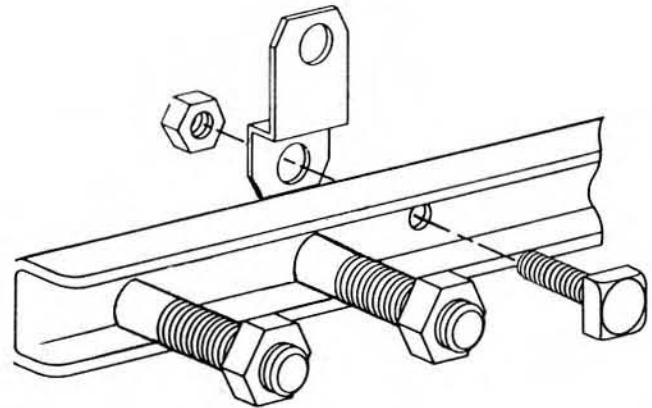
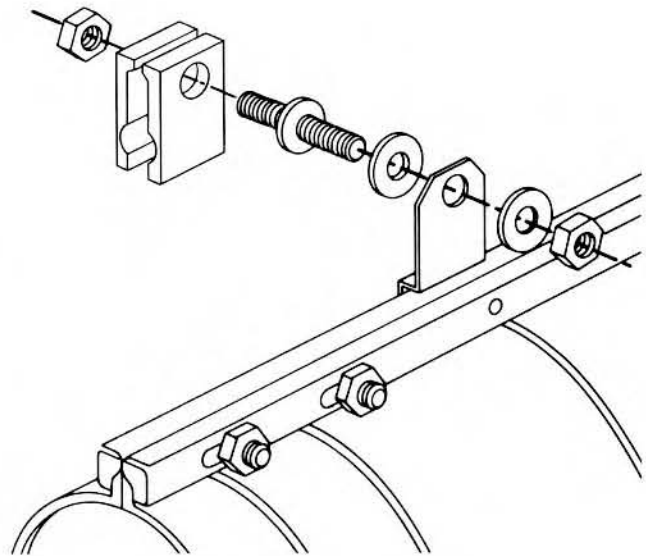

Figure 46
Figure 50
Aerial applications require that the suspension plates be installed to the back LOCKBAR™ Fastener prior to its application to the Splice Case. Special holes are provided on either side of the back LOCKBAR™ Fastening Assembly for this purpose. Figure 46.
Positioning tabs have been added to each LOCKBAR™ Fastener (front and back). These tabs should always point away from the Splice Case and will help assure proper alignment and eliminate the chance of a bar being misapplied. Figure 46.
23.03 Now that all LOCKBAR™ System preparatory steps have been accomplished, apply the back shell half (not having air flange and resin port) over end plates. Figure 50.
25.01 Place 2 lashing wire clamps (not supplied) on the suspension strand. See Figure 50. One directly above each aerial suspension plate that was placed in Step 23.02. See Figure 46.
27.08 Rotate the Splice Case back to its standard position. Figure 50.